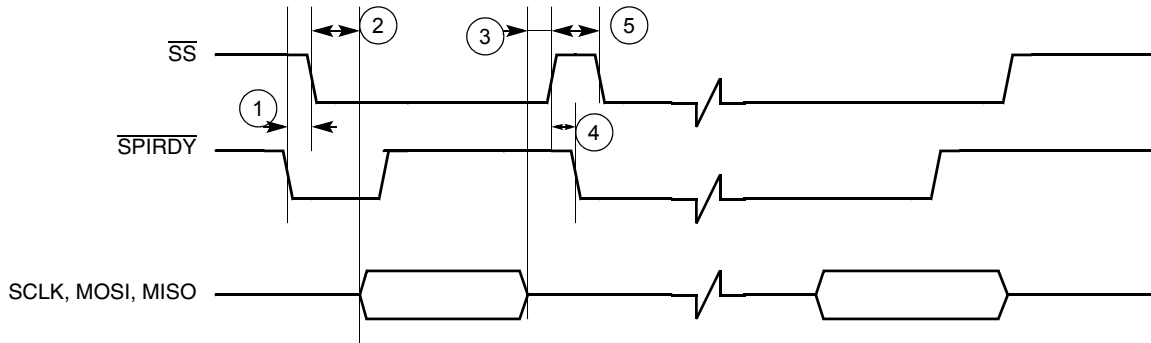
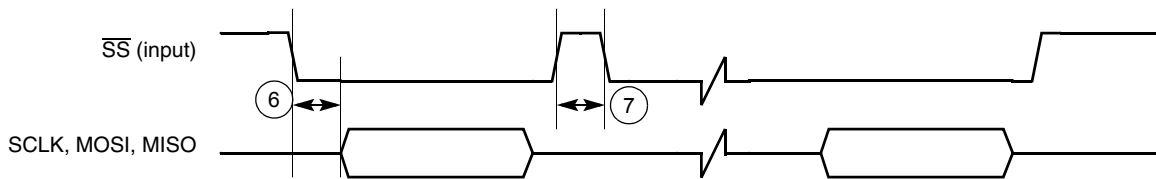

Figure 34. Master SPI Timing Diagram Using  $\overline{\text{SPI\_RDY}}$  Edge Trigger
Figure 38. Slave SPI Timing Diagram FIFO Advanced by  $\overline{\text{SS}}$  Rising Edge
To use the internal transmit (TX) and receive (RX) data FIFOs when the SPI module is configured as a master, two control signals are used for data transfer rate control: the  $\overline{SS}$  signal (output) and the  $\overline{SPI\_RDY}$  signal (input). The SPI1 Sample Period Control Register (PERIODREG1) can also be programmed to a fixed data transfer rate. When the SPI module is configured as a slave, the user can configure the SPI1 Control Register (CONTROLREG1) to match the external SPI master's timing. In this configuration,  $\overline{SS}$  becomes an input signal, and is used to latch data into or load data out to the internal data shift registers, as well as to increment the data FIFO. Figure 34 through Figure 38 show the timing relationship of the master SPI using different triggering mechanisms.
Table 18. Timing Parameter Table for Figure 34 through Figure 38